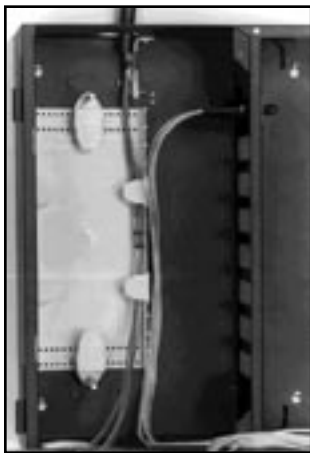

FIGURE 5 - ROUTE THE PIGTAILS
5.04 Route the pigtails along the Transition Assembly toward the bottom of the cabinet, while maintaining a smooth bending radius behind the Coupler Plates. (Figure 5)